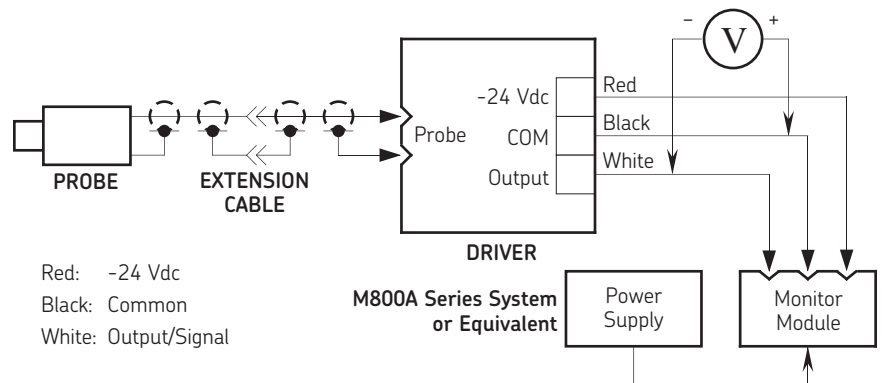

Figure 6-4. Interconnect to vibration monitor system.
6. Apply -24 Vdc power to the driver, and connect a voltmeter to the driver output (Figure 6-4).